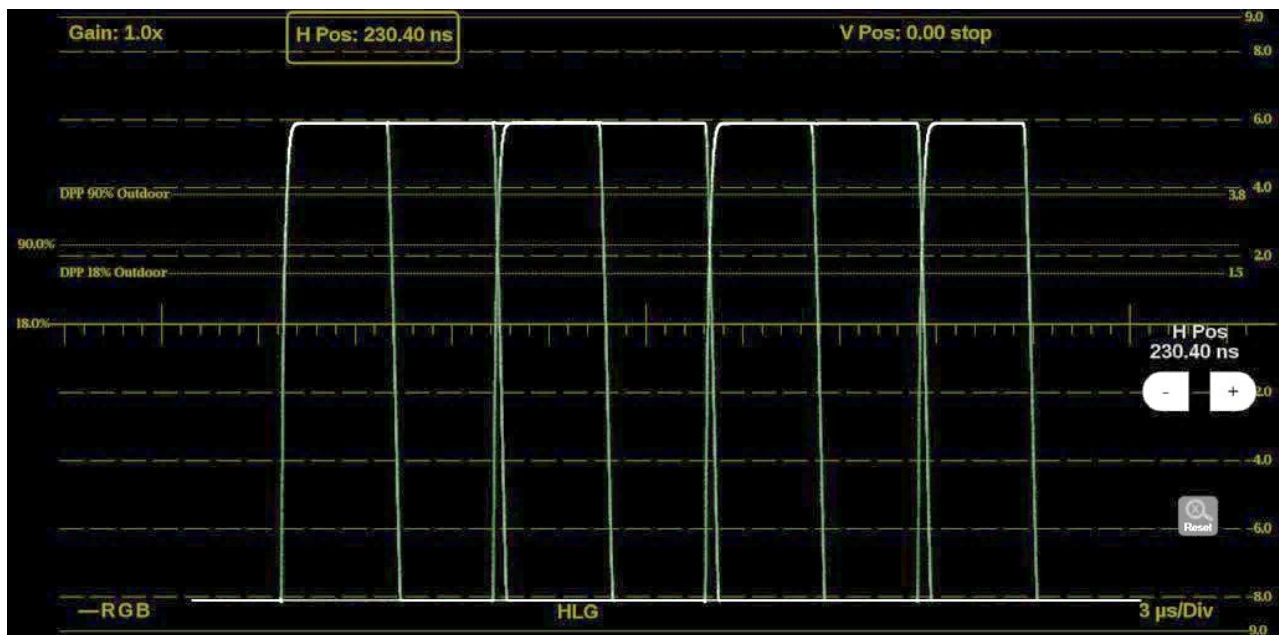

Figure 198: Stop Display on-screen tools – horizontal position
1. Select **H Pos** to allow adjustment of the horizontal trace. (See Figure 198.)